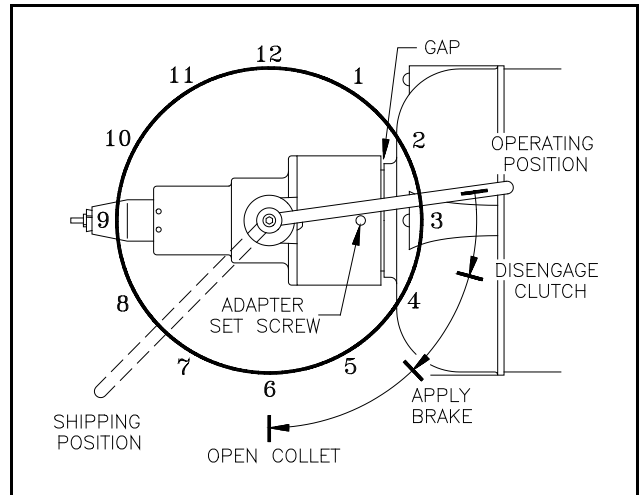

Figure 10. Handle position
- 9.1 Confirm that the Quick Chuck handle is in the shipping position. See figure 10. Slide the Quick Chuck and adapter assembly all the way onto the lathe hub. It may be necessary to open the slot in the adapter with a screwdriver. **CAUTION:** It should only take a small amount of pressure to open the slot or to slide the assembly into place.